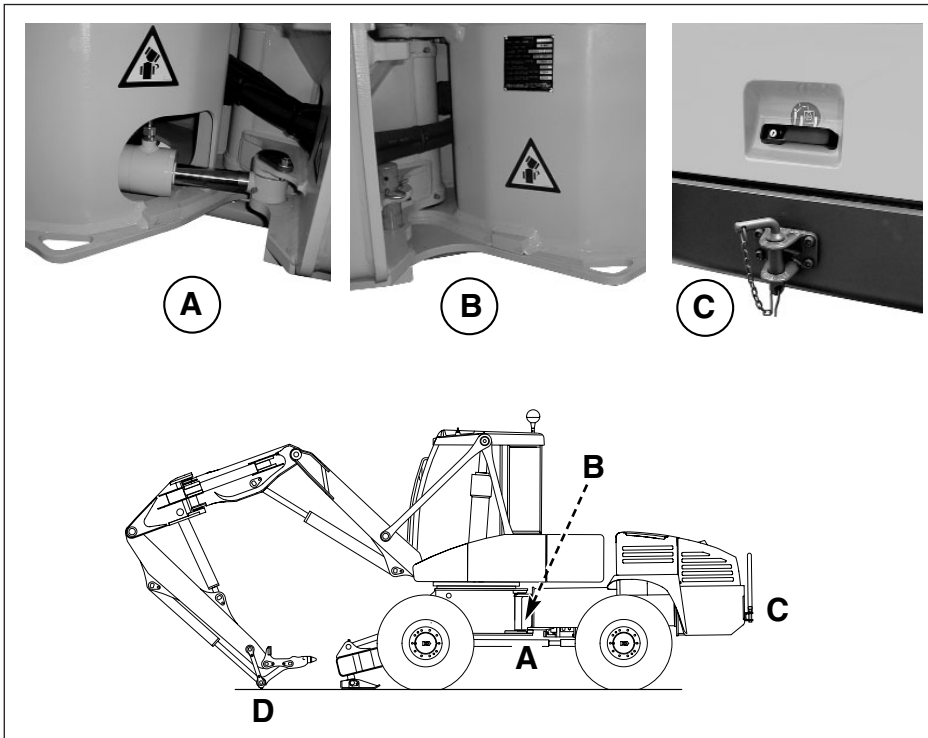
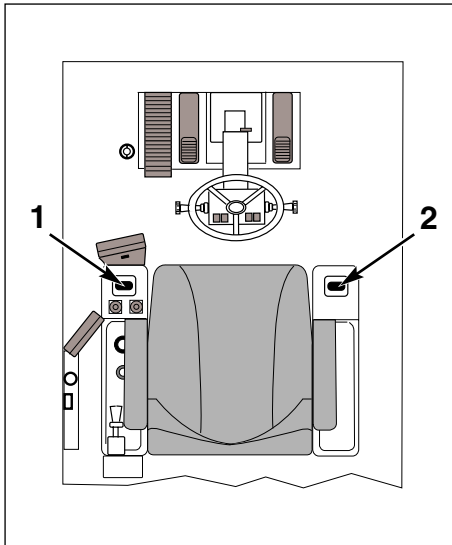

Fig. 3
Fig. 4
- Fastening points: (A-B-C fig. 3).
- Position the equipment so that the top part is below the height of the cab, while resting it on the tool holder or the stops of the levers (D fig. 3) using the control manipulators (1 and 2 fig. 4).
- Put the equipment in the “boom ram vertical” position (2 fig. 4) and (fig. 6).
Note: If necessary, correct the machine's balance by adjusting the inclination of the boom ram (2 fig. 4).